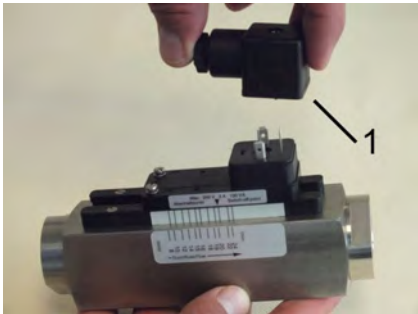

Fig. 23: Remove socket
2. ➔ Remove socket (Fig. 23/1)